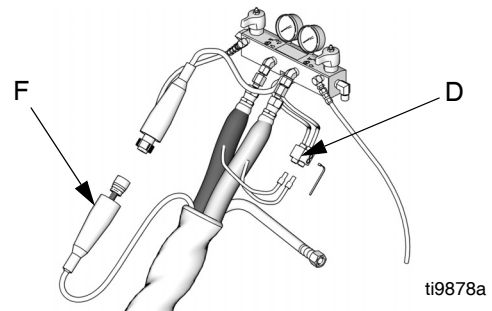

FIG. 10. Heated Hose
3. Disconnect hose connector (D) at Reactor, FIG. 10.
4. Using an ohmmeter, check between the two terminals of the connector (D). There should be continuity.
3. Disconnect FTS cable (F) at Reactor, FIG. 10.
3. Remove tape and protective covering from FTS (21), FIG. 10. Disconnect hose cable (F). Test with ohmmeter between pins of cable connector.